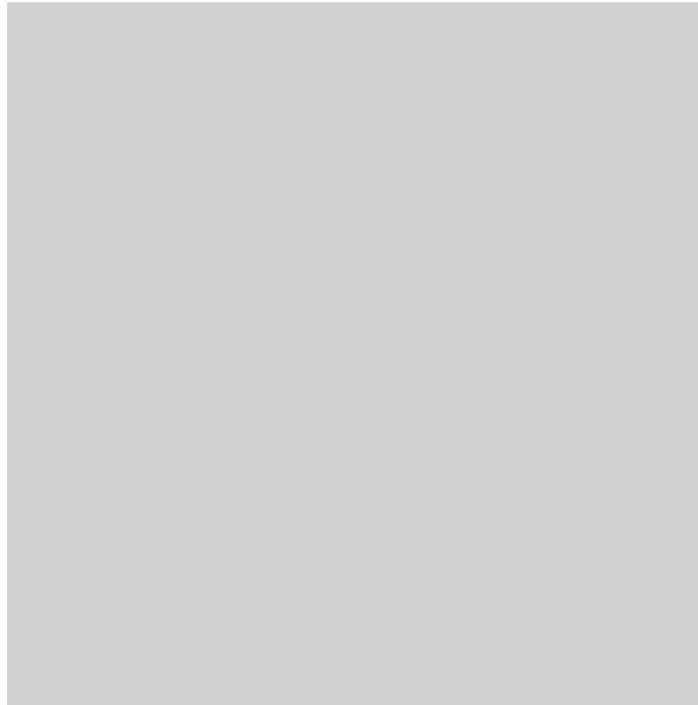

Figure 4-10. Removing the Power Supply
5. Route this drive bay fan status cable through the portal into the card cage area by removing the floor plate at the bottom of the card cage. See Figure 4-10.
- a. With the power supply door already open, remove the two screws on the bottom of the power supply that secure it to the unit (Figure 4-10).